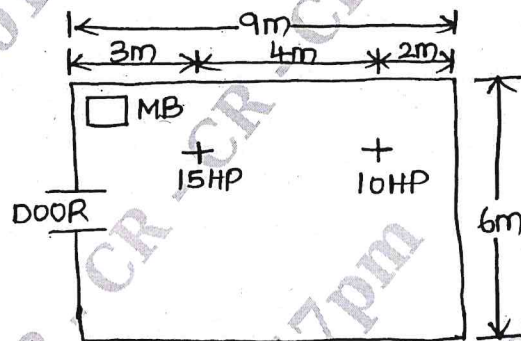

Fig.Q5(b)
b. Two ac, 3 phase, 415V, 50 Hz induction motor is to be installed in a workshop, the plan of which is shown in Fig.Q5(b). Show the layout of the wiring (key diagram) and calculate the quantity of material required. Assume efficiency of motor = 85% and power factor 0.9 lagging. (12 Marks)